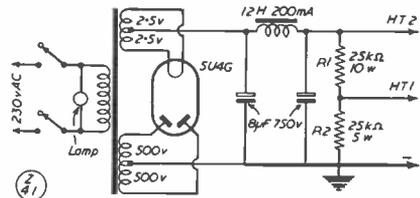

Fig. 6. Circuit diagram in detail for a suitable amateur transmitting HT power supply unit, as required by Question 6.
**Answer:** The power supply described and illustrated (Fig. 6) is intended to supply the high-tension for a final PA stage capable of running at about 100 watts and using, for example, two 807 valves in push-pull or in parallel. The HT needed is about 550-600 volts at 180-190 mA, and a tapping for the screen supply is also provided.